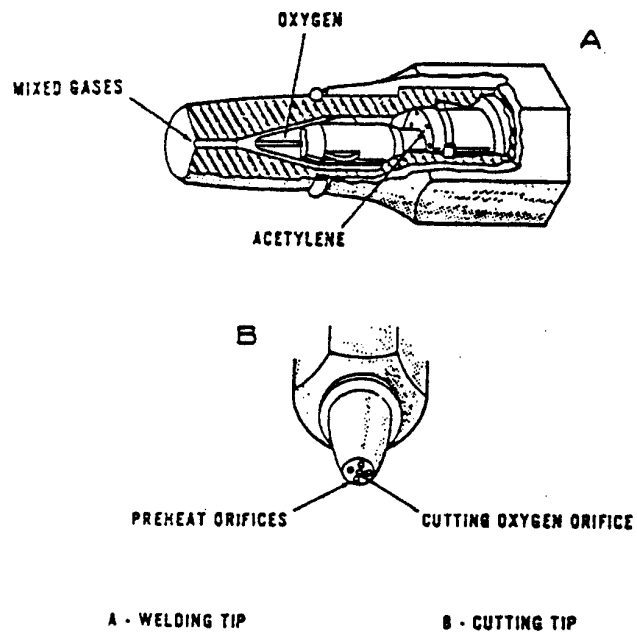

Figure 3-9 Cutting tip
- a Cutting tips are made of copper or of tellurium-copper alloys. Whether you use a cutting torch or a cutting attachment to the welding handle, the cutting tip will be of the same general design as that shown in **Figure 3-9 and 3-10**. Notice that the cutting tip has several small orifices which surround a larger center orifice. The small orifices are for the oxyacetylene flames which are used to preheat the metal to its ignition temperature. The large center orifice is used to direct the jet or stream of high pressure oxygen that does the cutting. There are usually four or six preheat orifices in a typical cutting tip.